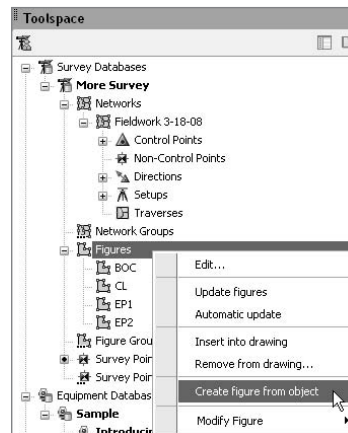

Figure A.16
9. Right-click the Figures entry on the Survey tab of the Toolspace. Choose Create Figure from Object, as shown in Figure A.16.